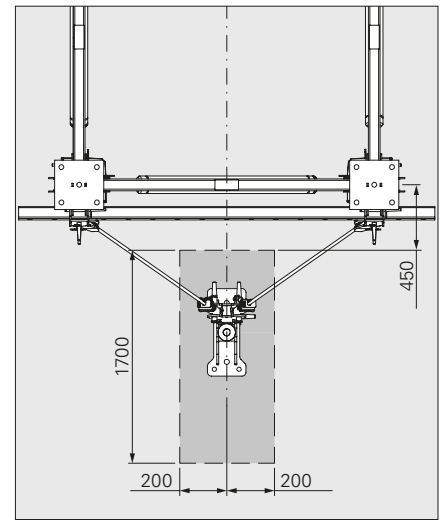

Fig. B1.02a
- The position of the Bracing Shoe VARIOKIT (109) is variable. The anchoring of the bracing shoe can be cast or mounted in the foundation in advance, within the area indicated in Fig. B1.02a.